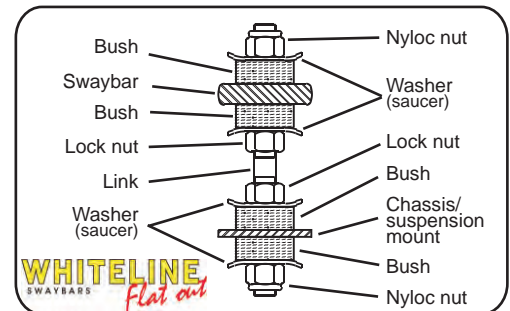

Fig.1. Whiteline double pin type link.
- For swaybars supplied with new links and hardware, refer to Figures 1 to 4 for most common endlink types and their correct assembly.
Caution: Do not over tighten swaybar pin type link bushes, refer Fig 1. Nuts should be tightened until washer meets the bush & stops rotating. Then tighten a further $\frac{2}{3}$ of a turn. Over tightening compresses and pre-loads the polyurethane bush which reduces articulation and may cause premature failure.